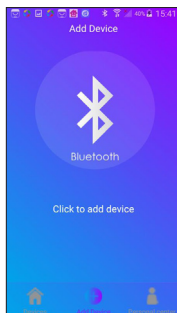

Fig. 2
Step 4. Select the access mode, WIFI or BT (fig.2). Enter access details as needed. The unit may beep and the “WIFI” light should start blinking. This indicates that the unit is pairing.